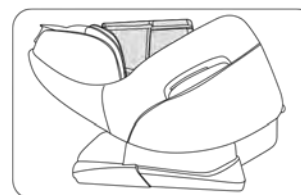

Figure 1
- Open the master box, take down the calf rest. (Figure 1)